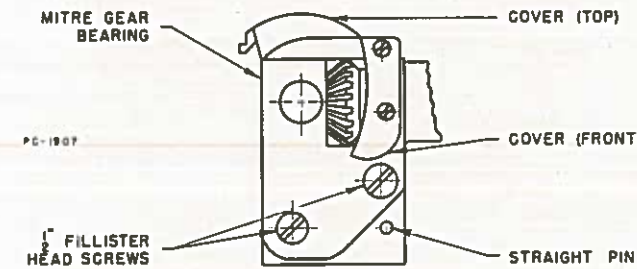

FIGURE 9A
4. Unscrew two $\frac{1}{4}$ " fillister head screws from Cover (top) and Cover (front). Remove both covers from Mitre Gear Bearing (Figure 9A).
3. Unscrew two $\frac{1}{4}$ " fillister head screws from Top and Front Covers and remove both covers from Mitre Gear Bearing (Figure 9A).
22. Re-drill and tap ($\frac{1}{4}$ "-20) Mitre Gear Bearings and Top Cover to fit new wide range divider Cover (Front) (12" and 14" Heads only) Figure 9A.